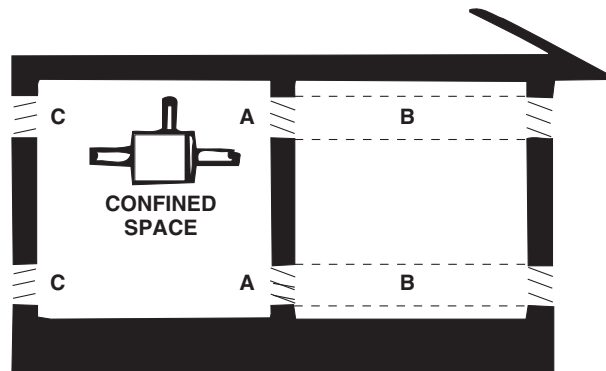

Figure 2. Confined Space Combustion Air Openings (Refer to Table 5)
- Even a slight leak can create a negative pressure condition in a confined space and can affect combustion. Do not install a unit in a confined space without providing wall openings leading to and from the space. Depending on the combustion air source, provide openings near the floor and ceiling for ventilation and air for combustion as shown in Figure 2 and as listed in Table 5.
*See Figure 2.